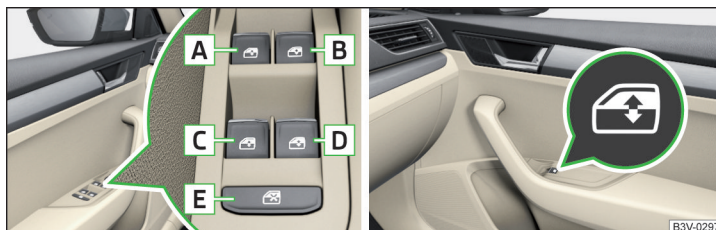

Fig. 40 Buttons for window lifter
Power window buttons » Fig. 40
- After the driver or front passenger door is opened, the operation of the window is only possible with the button **A** » Fig. 40, in which case this is pressed or pulled for approx. 2 seconds.
- > **or**: switch off the ignition, open the driver's door and hold the key **A** until it stops in the open position » Fig. 40 on page 59.
- > **or**: switch off the ignition, open the driver's door and hold the key **A** until it stops in the closed position » Fig. 40 on page 59.